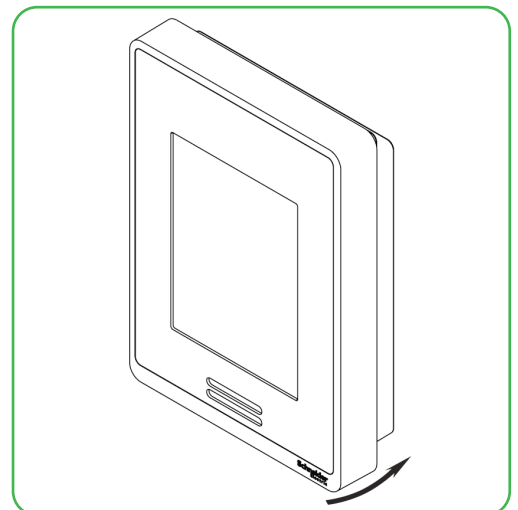

Figure 3
7. Gently align the cover with the top of the base, and snap it into place from the bottom (Figure 3).